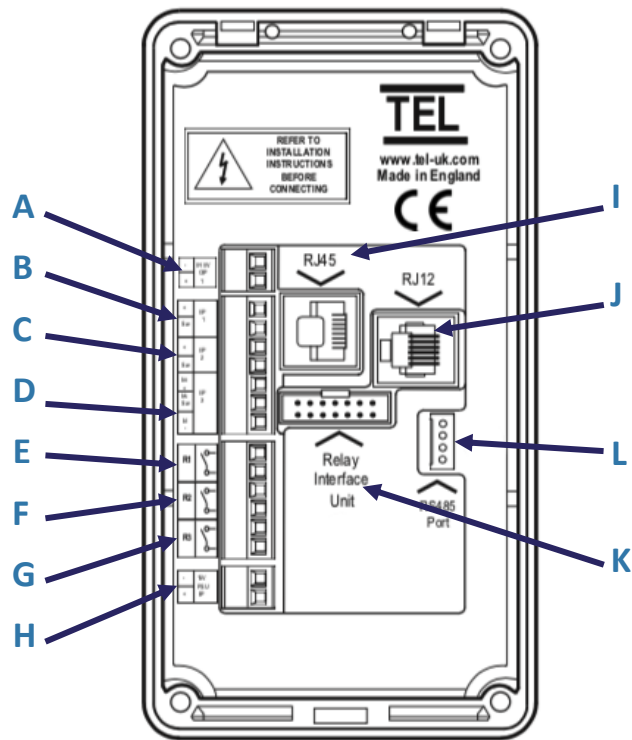

Figure 21: AFA4000/E and AFA4000/E/AS monitor connections
1. Connect the 14-way ribbon cable to the Econ Power Supply Unit on top of the fume cupboard and to the Relay Interface Unit connector on the back of the AFA4000/E monitor (K in Figure 21).
2. Connect the 'telephone style' airflow sensor plug-in cable to the sensor and the back of the AFA4000/E unit (J in Figure 21).
5. Connect the power supply cable into the back of the AFA4000/E (H in Figure 21) and to the connection on top of the fume cupboard.